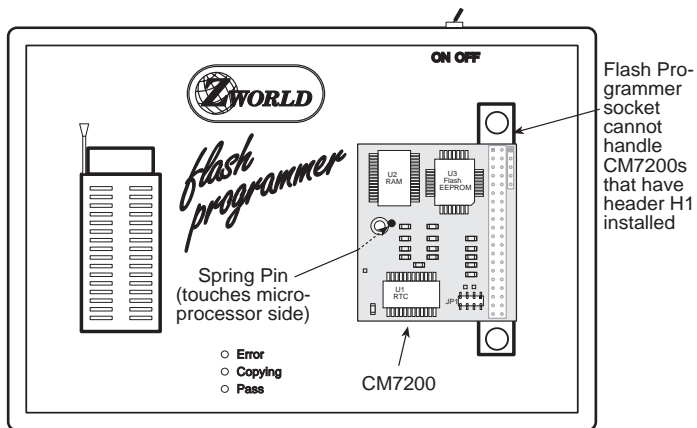

Figure I-5 Placement of CM7200 in Flash Programmer Socket
5. Insert the target CM7200 in the 40-pin socket on the Flash Programmer as shown in Figure I-5.
6. Make sure the Flash Programmer's spring pin shown in Figure I-5 makes contact with the CM7200 circuit board. If the spring pin does not make proper contact, the Flash Programmer will not work. Therefore, take care never to bend or otherwise damage the spring pin.